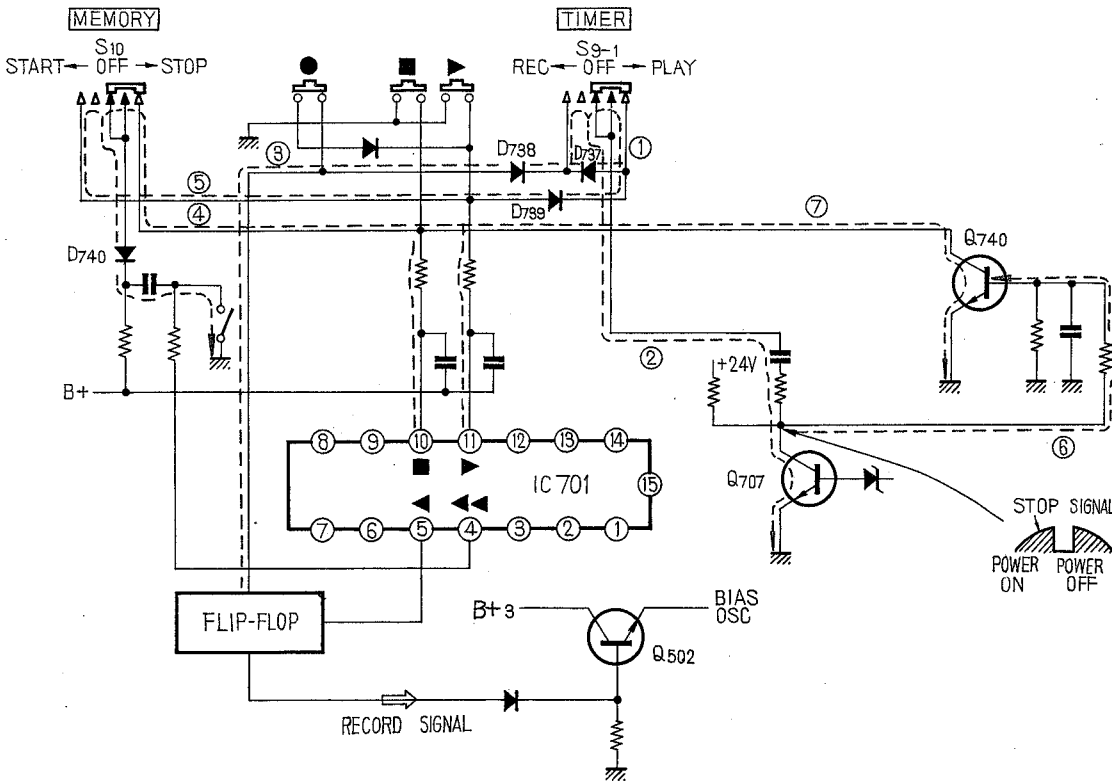

Fig. 1-15.
(6) Timer and Memory operations (Fig. 1-15)